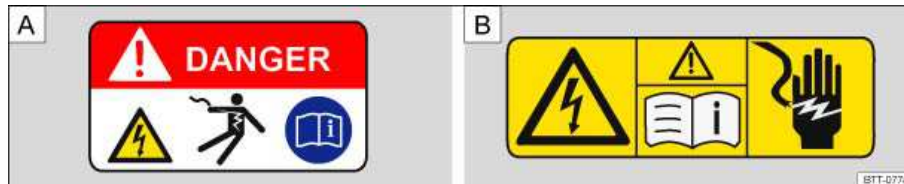

Fig. 128 Warning label on high-voltage hybrid components (A). Warning label on covers which are over high-voltage hybrid components (B).
- On each high-voltage component, for example, in the engine compartment or underneath the luggage compartment ⇒ fig. 128 A.